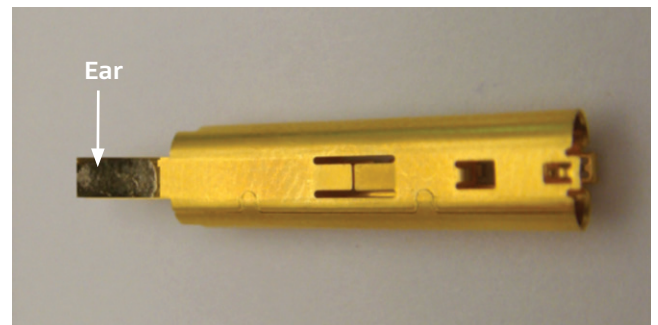

Figure 59: Tinning ears of outer body
19. To prepare the outer bodies for each pair, tin the ears of each outer body, keeping the solder smooth (Figure 59).